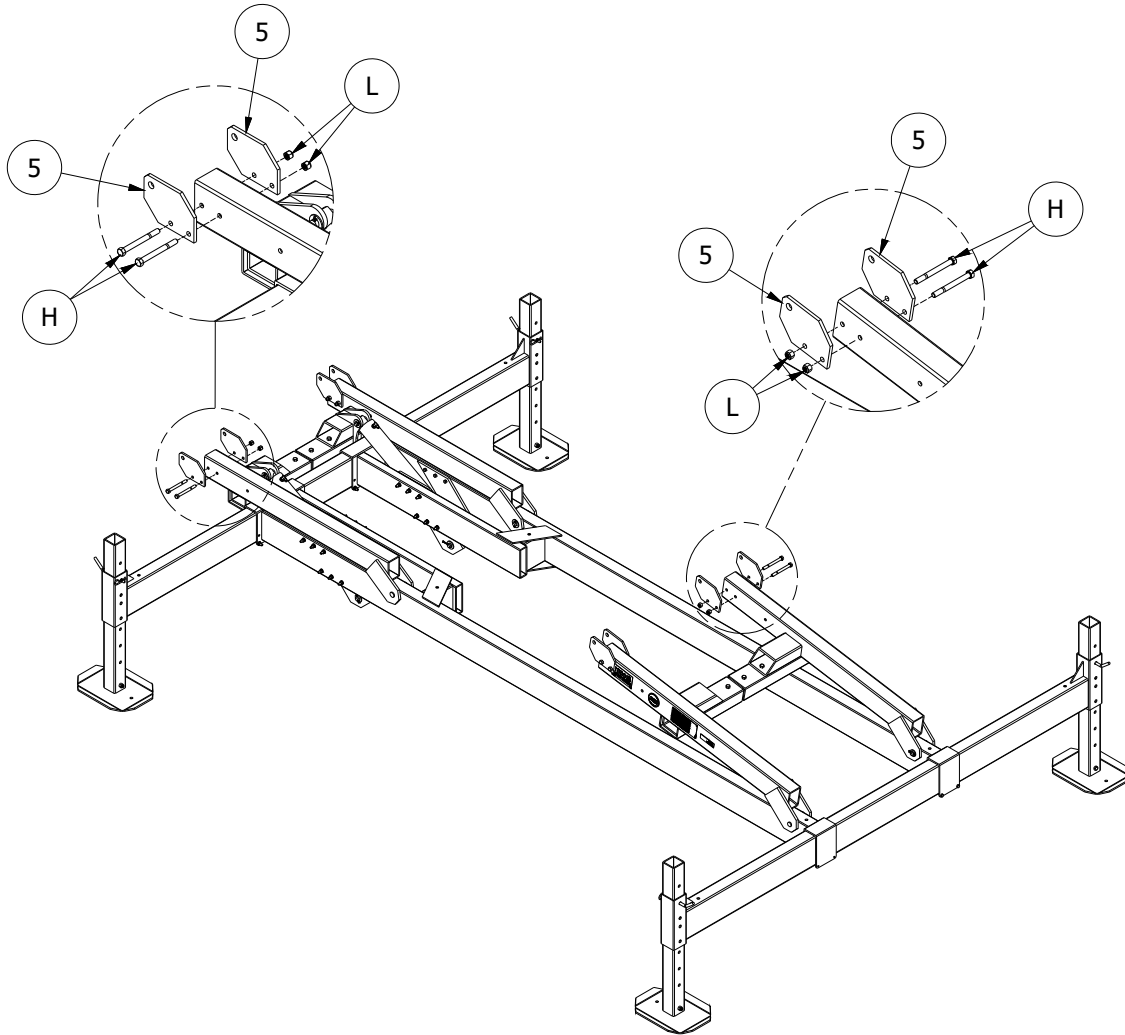

Figure 2-2A.
1. Refer to Figure 2-2A. Attach two Liftarm Pivot Plates (5) to each liftarm tube using two each; hex screw (H) and locknut (L).